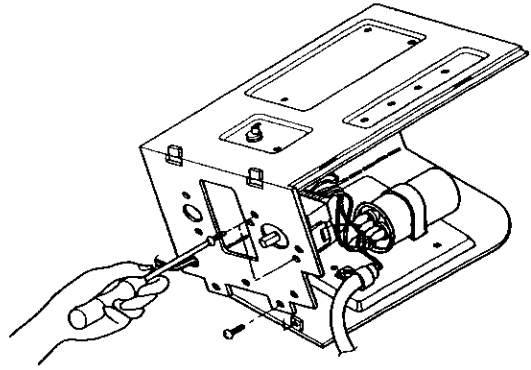

Figure 70
5. Remove the rotary switch. (See Figure 70)